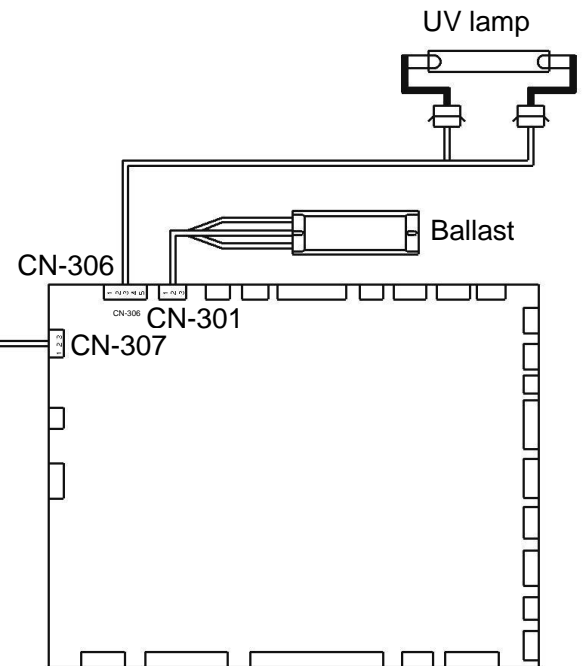

Figure 10-2
12. Connect each lead wire connector of ballast and glow assy based on circuit diagram in figure 10-2.